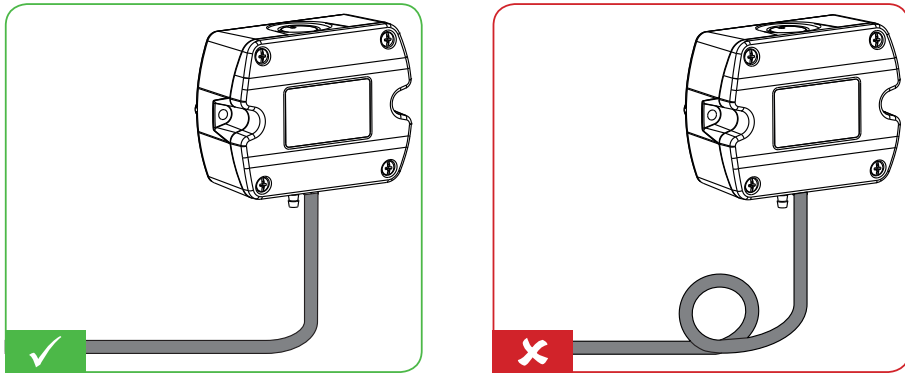

Fig. 7 Pressure hose route
- Connect the pressure hose (included in the scope of supply) first to the EE600 and then to the nipples at the duct. Route the pressure hose for avoiding sharp bends which might lead to the hose obstruction („Fig. 7 Pressure hose route“).